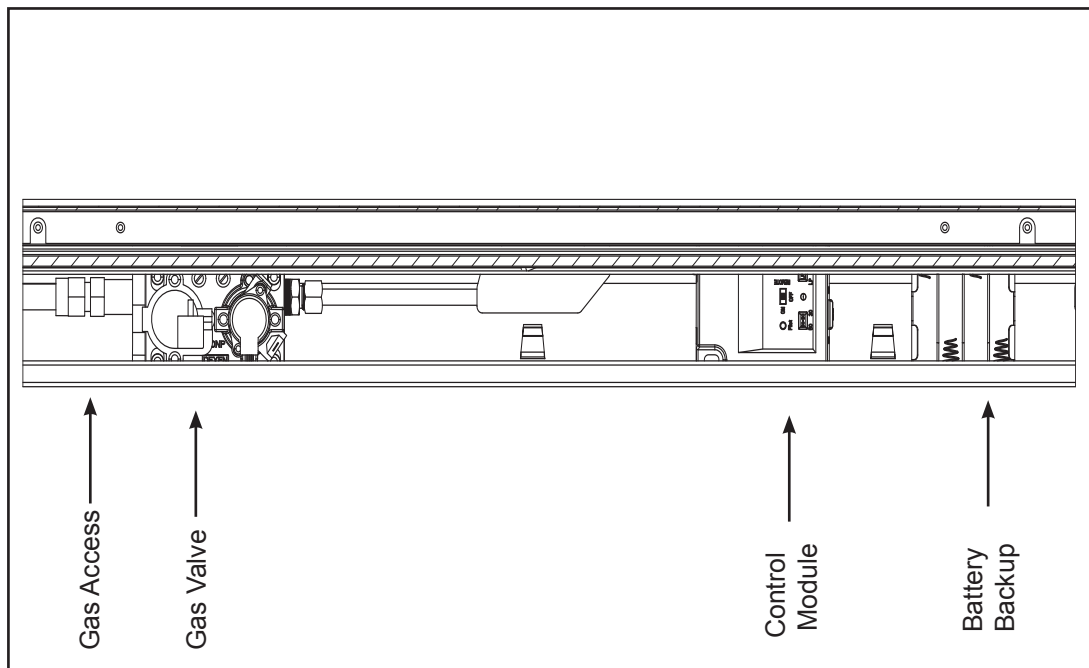

Figure 9.3 Top Down View of Controls with Screen Barrier and Glass Door Removed
- Refer to Figure 9.3 for location of gas line access in appliance.